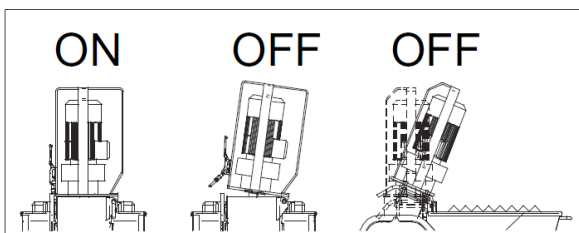

FIG.11
**!** - Opening of the mixing chamber causes shutdown of the machine moving parts (fig.11). First close the mixing chamber and press the start pushbutton to start the machine.